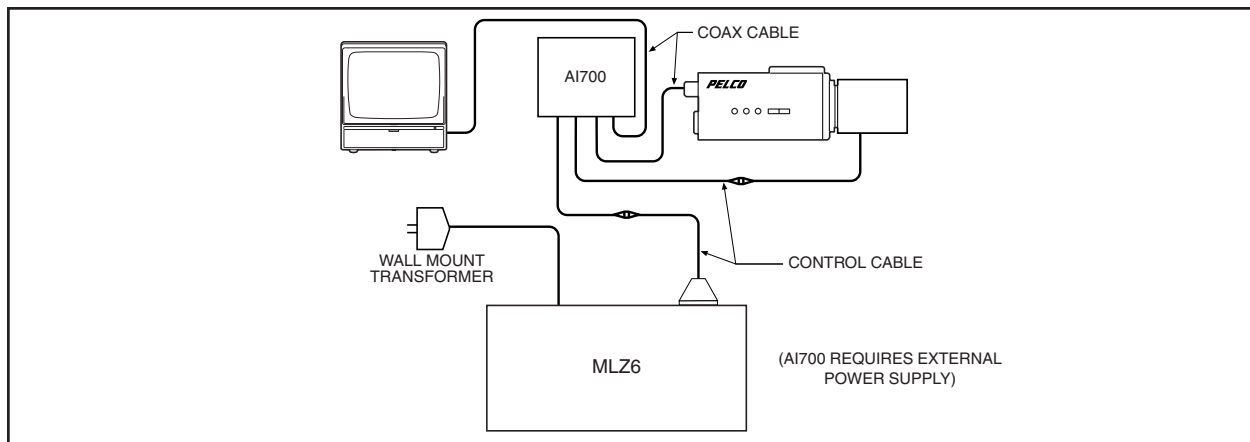

Figure 4. System Configuration Using AI700 or AI701 Auto Iris Servo
NOTE: AUTO operation only works in conjunction with AI700 or AI701 auto iris servo units. If the lens is equipped with AI700 or AI701, use the following guidelines to test auto operation (see Figure 4).
6. Connect the AI700 or AI701 as shown in Figure 4. Put the power switch in the AUTO/ON position. The IRIS switch should not operate; ZOOM and FOCUS switches should operate normally. Observing the monitor, test operation of ZOOM and FOCUS switches. Next, turn the lens toward a dark area, and observing the monitor, check that the iris opens. Move the lens back toward a lighter area, and observing the monitor, check that the iris closes.